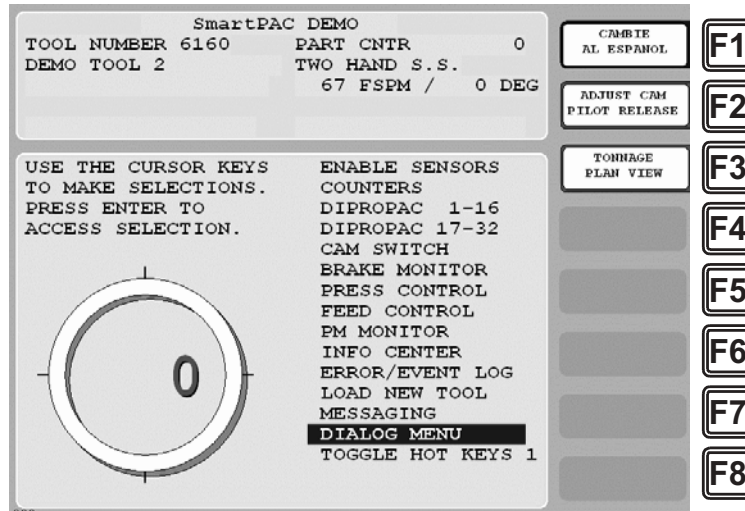

Figure 11. SmartPAC Run Mode Main Menu with DIALOG MENU Item Selected
- On the Main Run Menu (see Figure 11, page 16), select the DIALOG MENU item.
1. With the tool loaded and running, select “COUNTERS” on the Main Run Menu (see Figure 11, page 16) to display the Counters screen (see Figure 13, page 18).